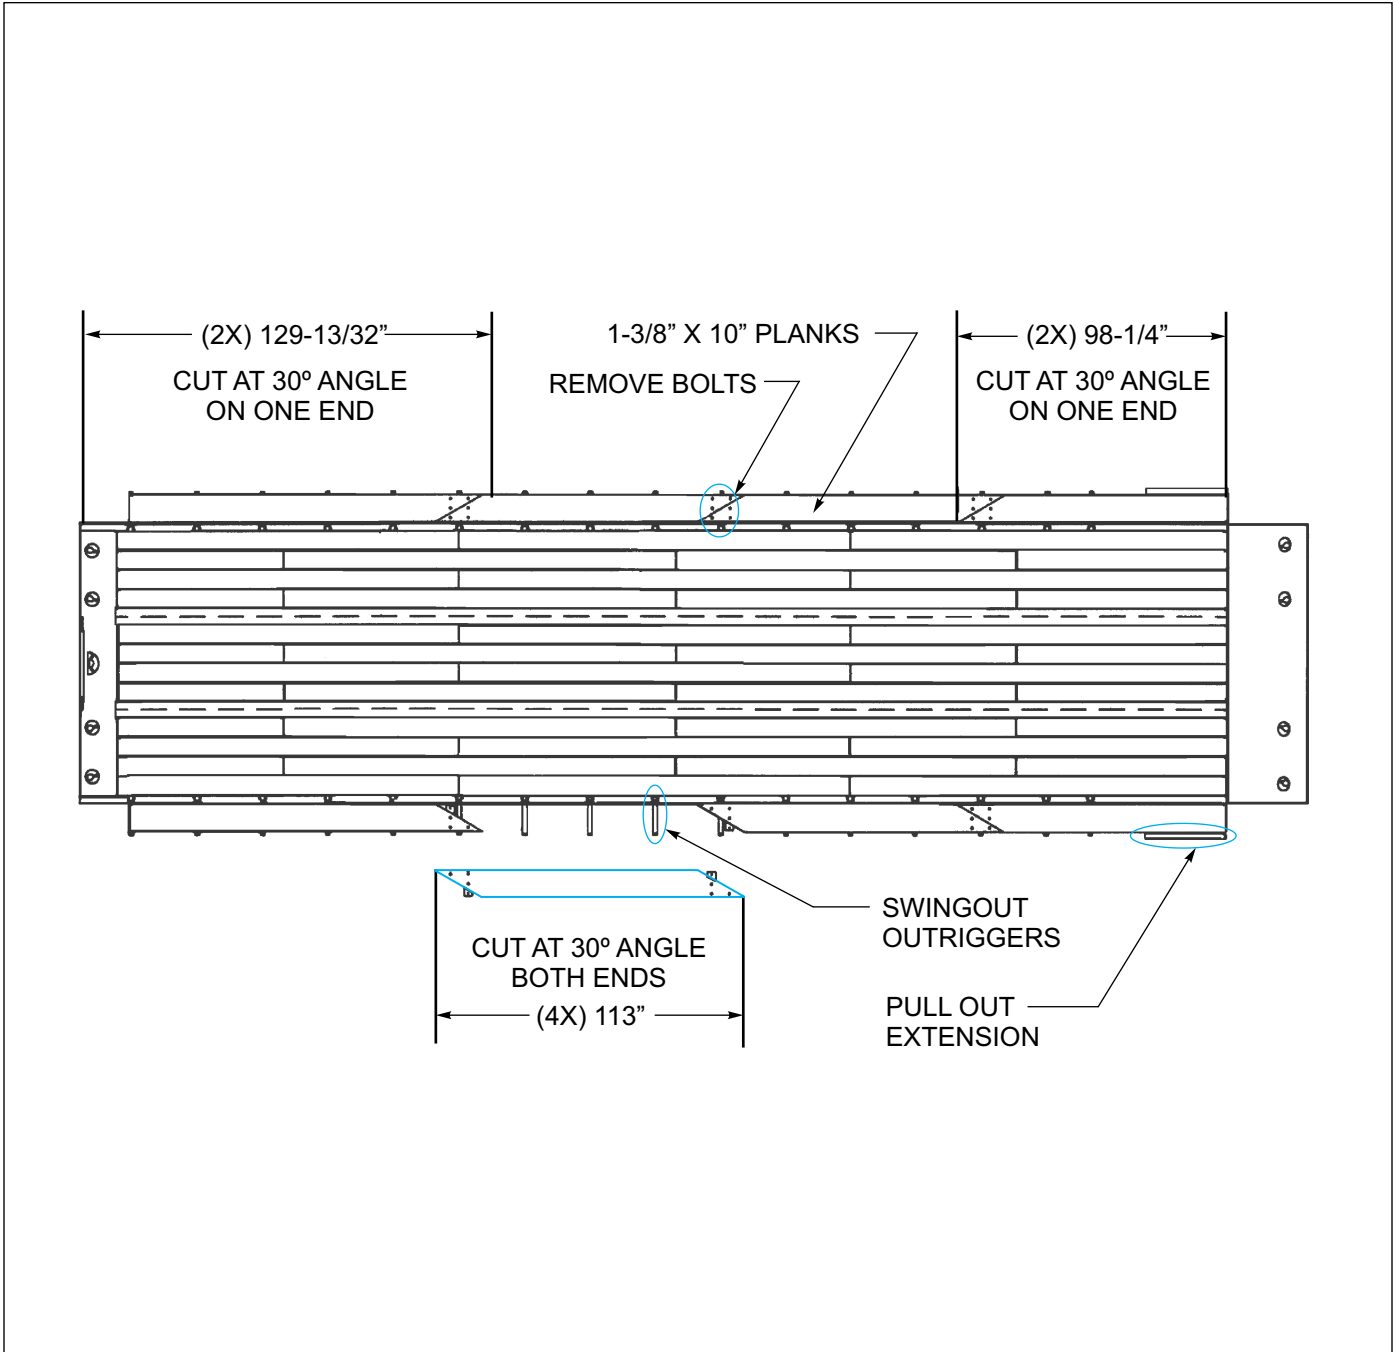

Figure 3-5: Outrigger Platform Extension
- 1. Unlatch and fold out swing-out outriggers (See Figure 3-5.)
- 6. Remove only two bolts for each joint (See Figure 3-5.) Leave braces attached to boards for storage.